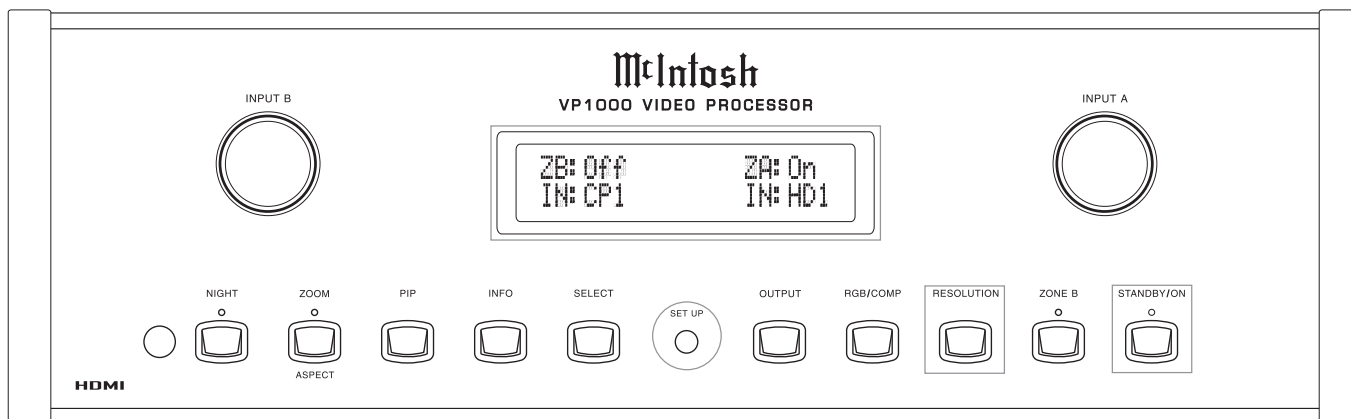
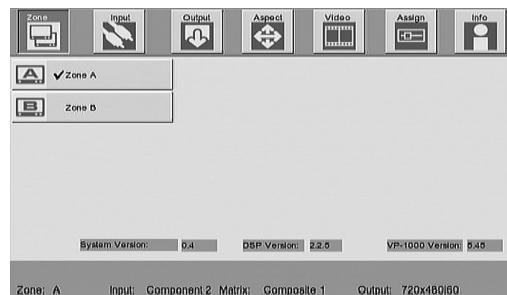

Figure 2
Figure 3
2. Press the VP1000 Front Panel SETUP Push-button. The Front Panel Information Display will indicate ZA OSD ACTIVE. Refer to figure 2. The On-Screen Menu will also appear on the TV/Monitor. Refer to figure 3.